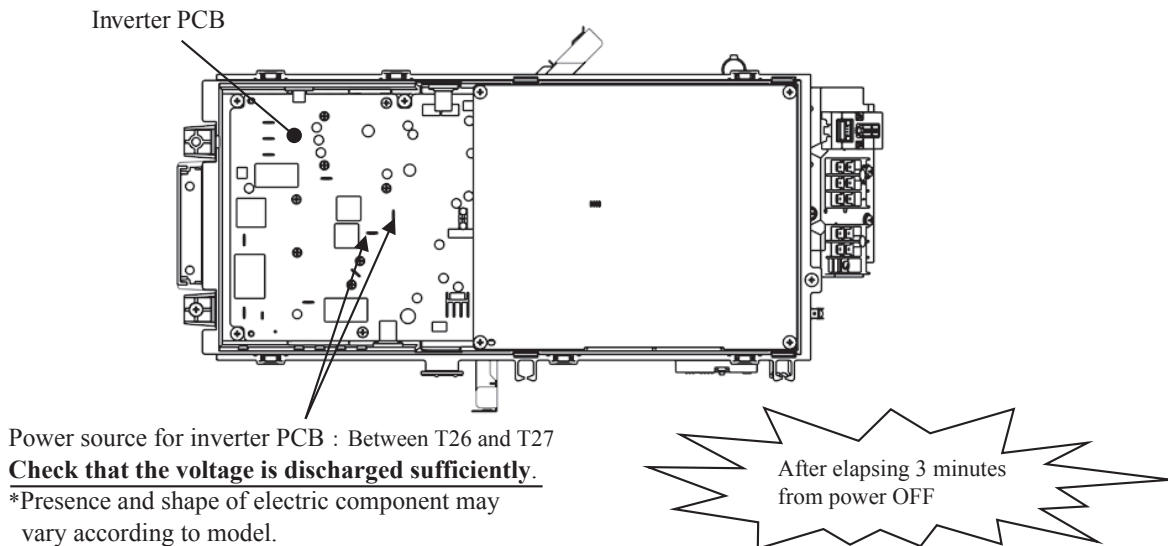

Fig.2 Voltage measurement points
In the situation that harnesses are connected to inverter PCB **be sure to measure voltage (DC)** between T26 and T27 on inverter PCB, and **check that the voltage is discharged sufficiently.** (Refer to Fig.2.)